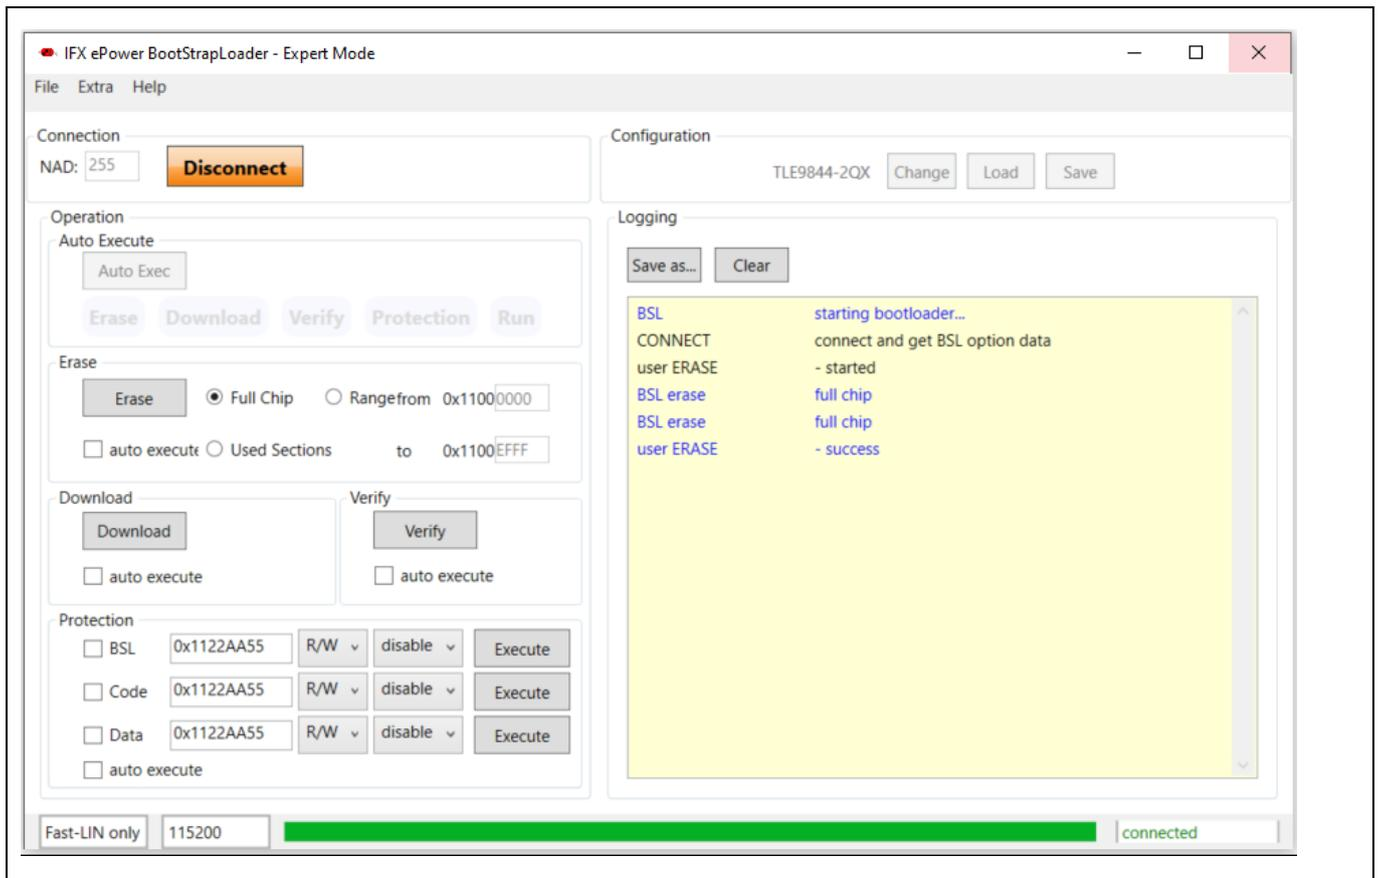

Figure 46 BSL_Tool Expert Mode
5. Select *Extra* → *Expert mode* (Screenshot is displayed in Figure 46)
8. Select *Erase* (Full Chip). Check for success in the Logging window (See Figure 46)